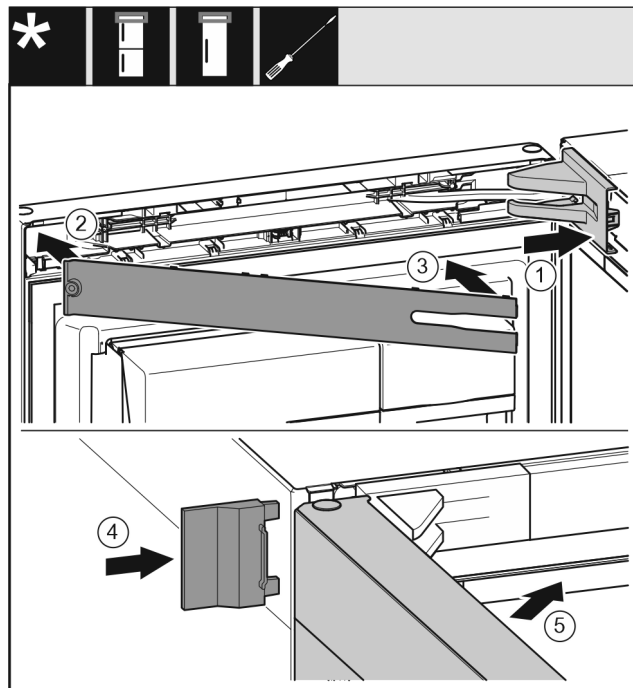

Fig. 43
- ▶ Put the swap bearing block cover Fig. 43 (1) on and engage, push apart carefully if required.
- ▶ Fit the trim Fig. 43 (2).
- ▶ Swivel in the cover Fig. 43 (3) and engage.
- ▶ Push the outer cover Fig. 43 (4) on.
- ▶ Close the upper door Fig. 43 (5).